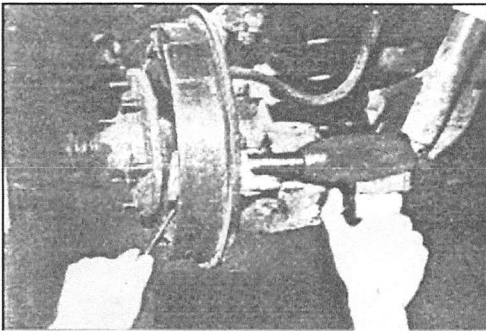

Fig. 4a
Step 4: Unfasten the two steering arm retaining bolts and remove the steering arm (Figs. 4a, 4b).